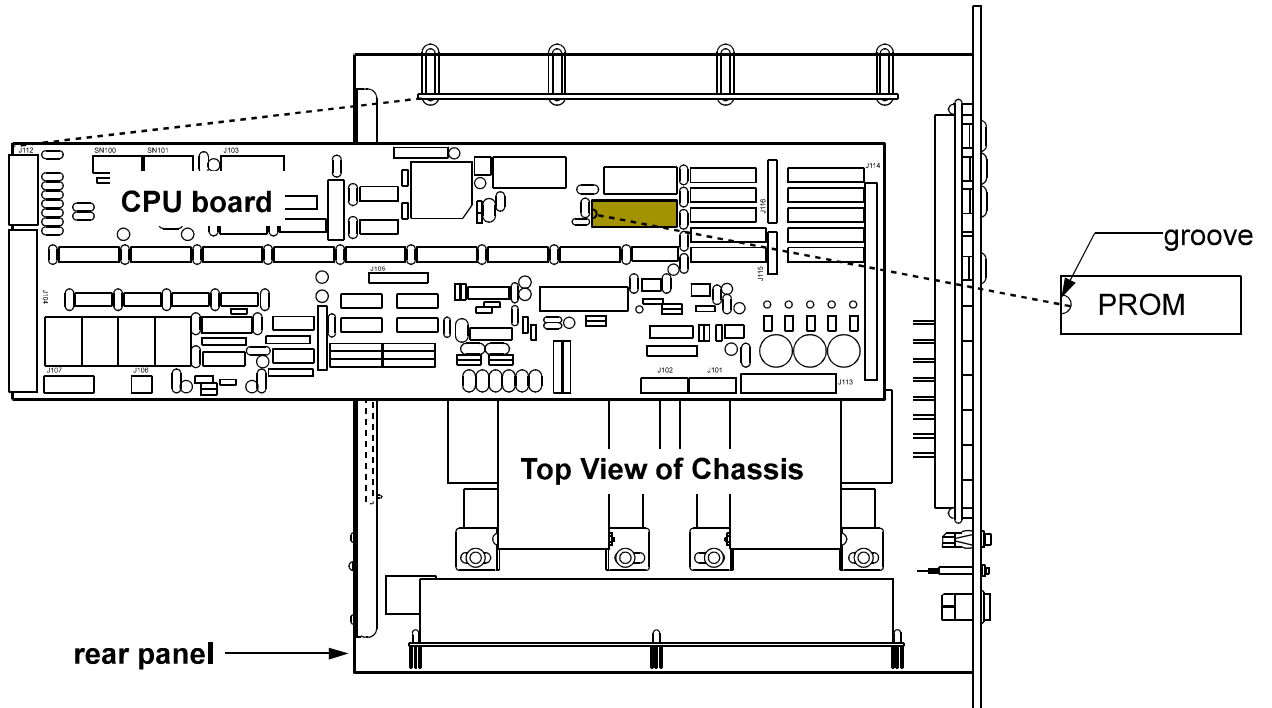

Figure 4-5.
Figure 4-5 shows the PROM's location.
6. Carefully insert the new PROM, making sure the small groove on the PROM (denoting pin 1) is positioned correctly. See Figure 4-5.